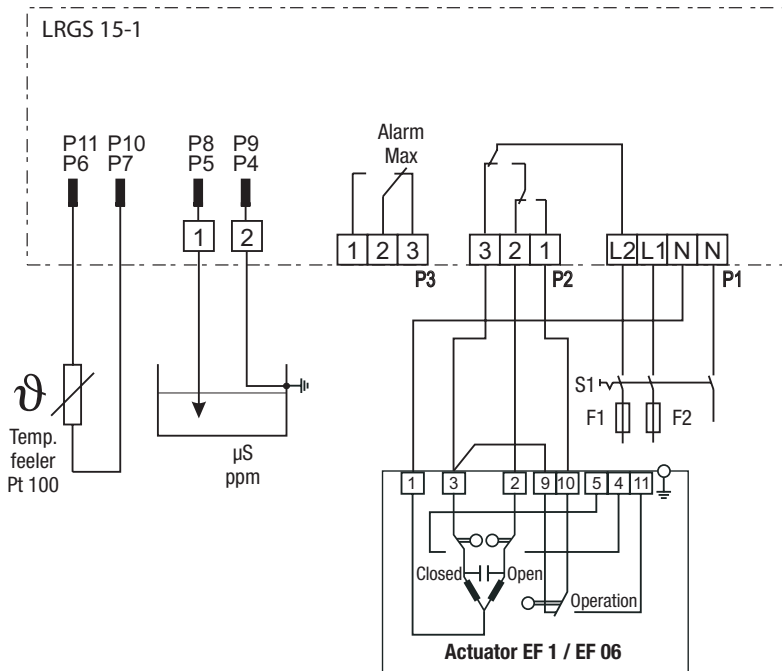

Fig. 8
5. Connect electrode cables to terminal lugs according to the wiring diagram, **Fig. 8**.